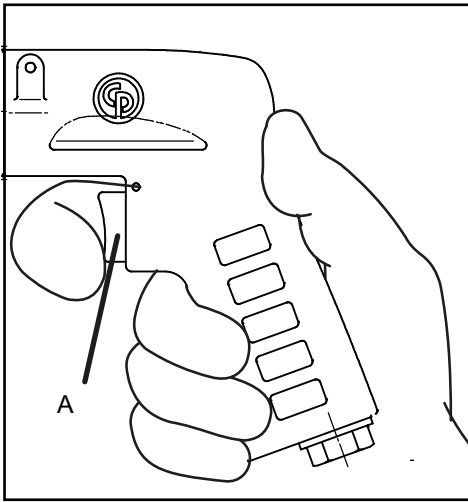

Figure 02 - Use
- See figure 02 to operate the tool.